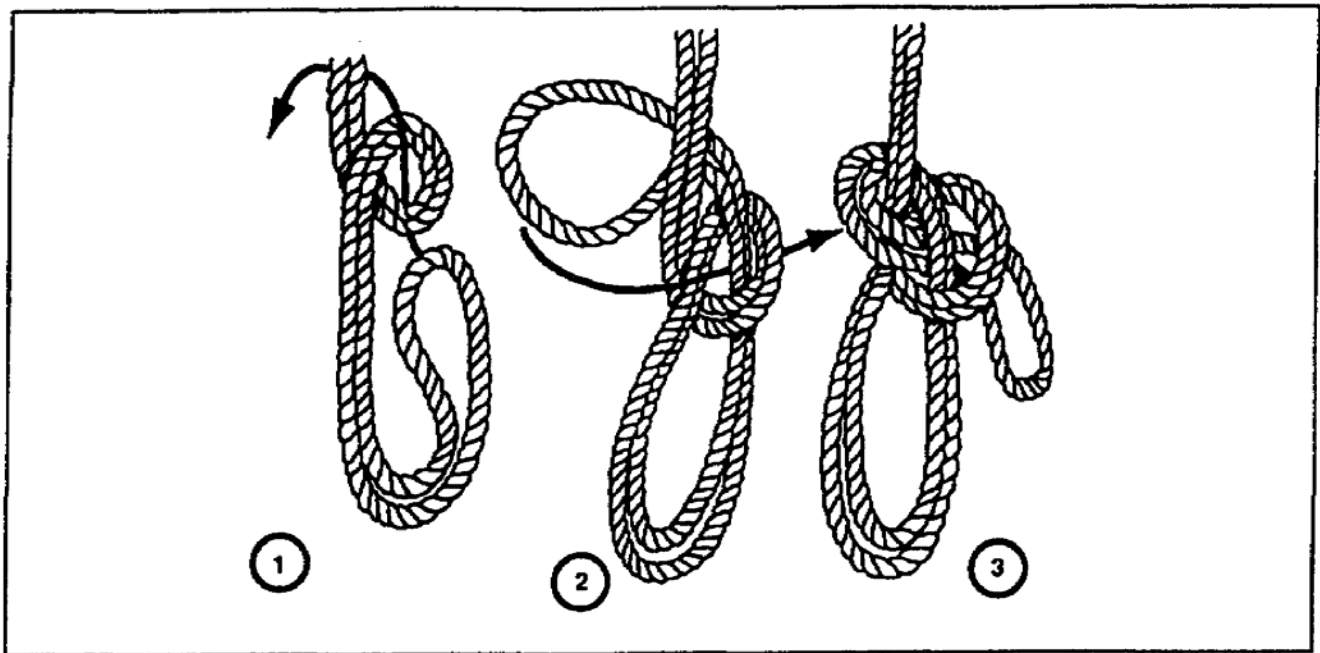

Figure 4-25. Double bowline
d. Double Bowline. The double bowline (Figure 4-25, page 4-20) forms three nonslipping loops. Use this knot to sling a man. As he sits in the slings, one loop supports his back and the remaining two loops support his legs. A notched board that passes through the two loops makes a comfortable seat known as a boatswain's chair discussed previously.